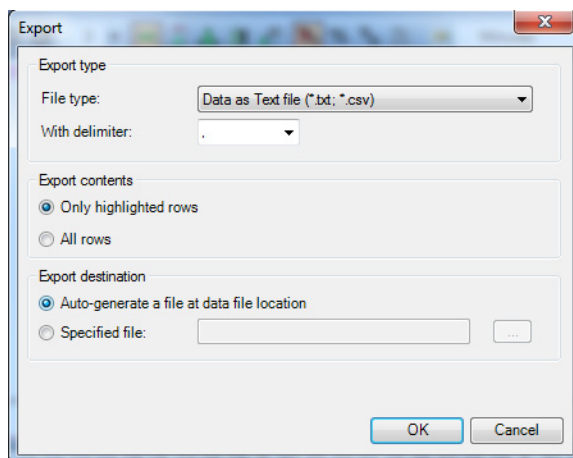

Figure 6 Export Find by Formula results to a Text file.
- Right-click anywhere in the compound list and select **Export**. See Figure 6.